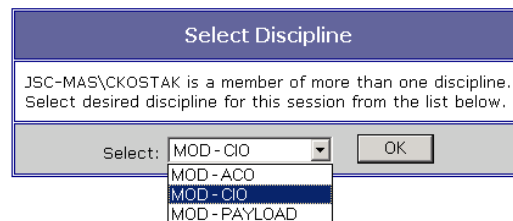

Figure 4-56. ChitS organization selection
3. If the user is a member of multiple organizations, the user is given the choice to log in as a member of one of these organizations (Figure 4-56). The user selects the group for whom they would like to author and respond to chits and clicks **OK**.